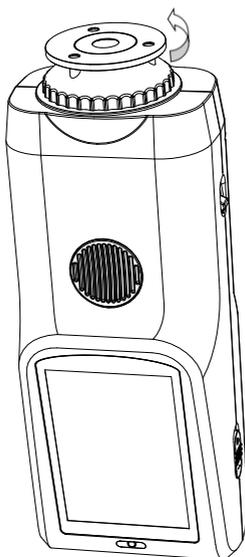

Figure 50 Measurement Aperture Uninstall
Step 1: As shown in Figure 50, counterclockwise rotates the measurement aperture, and take off it, then install the new aperture clockwise. When you hear "DA", it means that the measuring aperture and the integrating sphere button position are well matched, then the measuring aperture is installed well